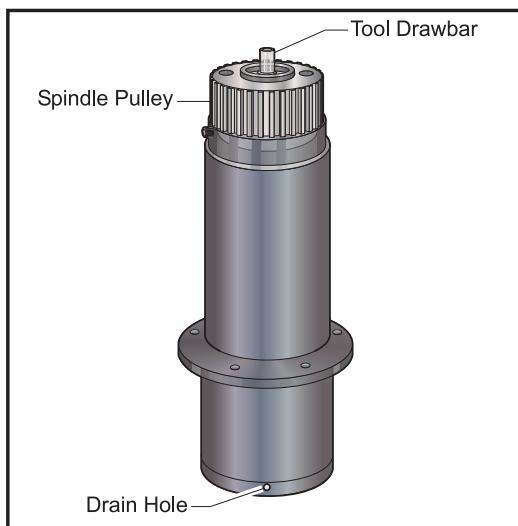

Figure 3.4-1. Spindle cartridge.
3. Carefully install new spindle into bored sleeve of head casting. Apply grease to the inside of the through bore in the spindle head (see Figure 3.4-1).